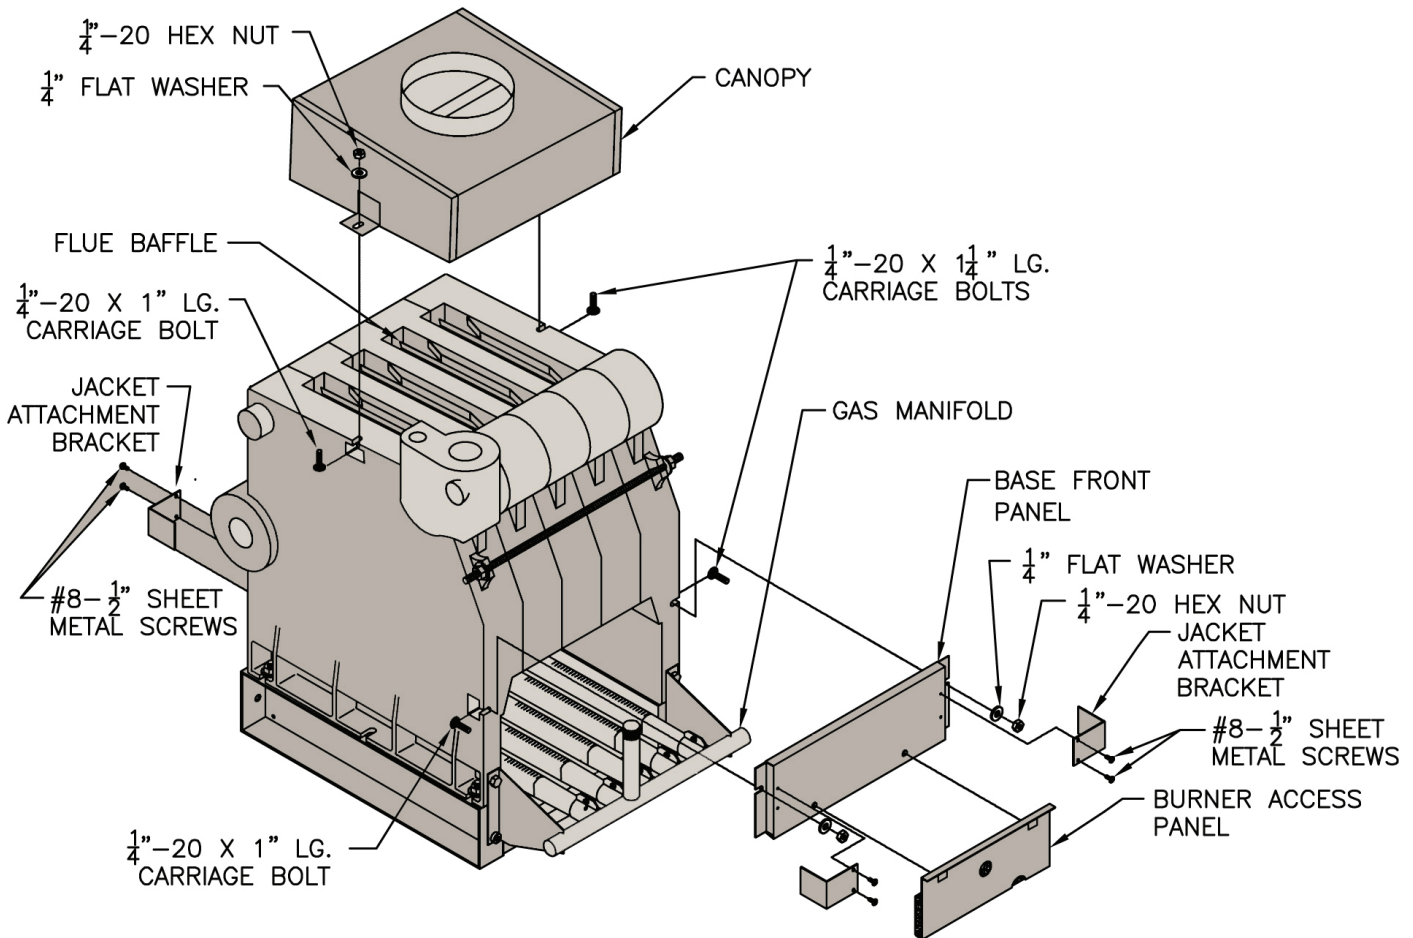

Figure 5: General Assembly (Knockdown Boilers)
G. Confirm that one (1) Flue Baffle is properly positioned in each Boiler Flueway. Tabs at the top of each Flue Baffle should be resting on top row of Flue Pins on each adjoining section.
H. Install Canopy on section assembly. See Figure 5. Canopy and hardware are located in Combination Boiler Parts and Control Carton.
J. Install Base Front Panel. See Figure 5. Panel and hardware located in Combination Boiler Parts and Control Carton.
2. Attach Flame Roll-out Switch Mounting Bracket to burner access panel with (1) #8 x 1/2" lg. sheet metal screw.
3. Attach Flame Roll-out Switch to mounting bracket with (1) #8 x 3/4" lg. sheet metal screw.
N. Install Burner Access Panel(s). Locate Burner Access Panel(s) in Combination Boiler Parts and Control Carton. Engage Burner Access Panel holes with projections on Base Front Panel. See Figure 5.
1. Locate four (4) Jacket Attachment Brackets in Combination Boiler Parts and Control Carton. Attach to Front Base Panel and Rear Base Panels with #8 sheet metal screws. See Figure 5.
4. Attach Upper Rear Panel to Lower Rear Panel. Do not install three (3) upper screws.